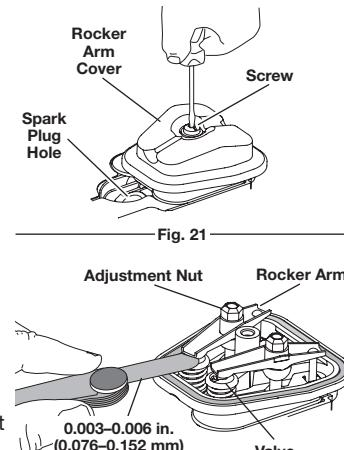

Fig. 21
4. Remove the screw holding the rocker arm cover with the appropriate tool (Fig. 21). Remove the rocker arm cover and gasket.
- The piston is at the top of its travel by looking in the spark plug hole (Fig. 21)
- 8. Reinstall the rocker arm cover using a new gasket (Fig. 21). Torque the screw to: 20–30 in·lb (2.2–3.4 N·m).